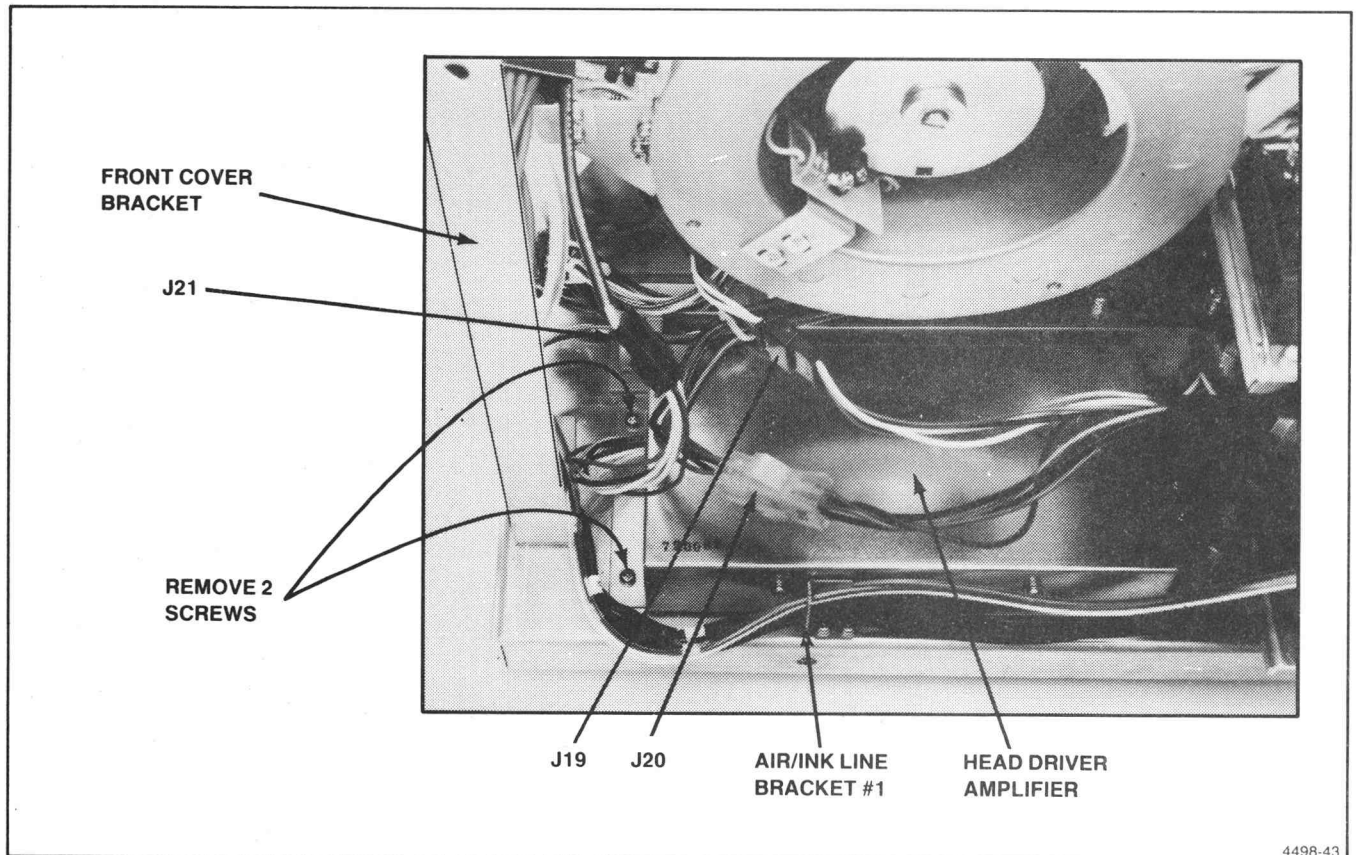

Figure 7-4. Head Driver Amplifier Removal.
4. Remove the two screws that secure the front cover bracket next to the head amplifier. See Figure 7-4. Lay the bracket aside.
9. Remove the two screws that secure the air/ink line bracket (#1) to the base plate. See Figure 7-4 for the location of the bracket.